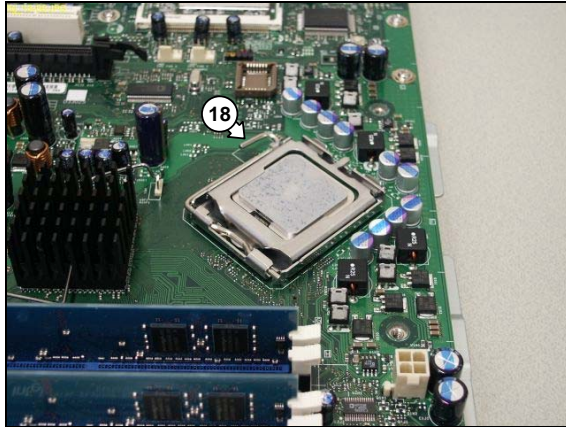

Figure 12.16-9
2. Release the CPU mounting clamp (18). See Figure 12.16-9.